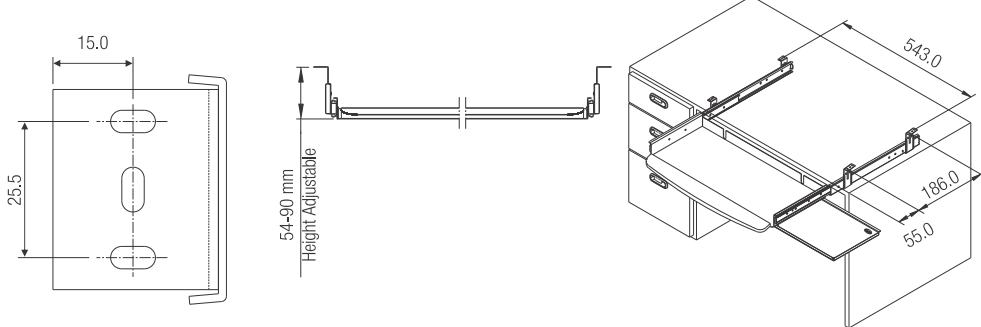

Fig. 2.
2. Drill as per drilling diagram Fig. 2.